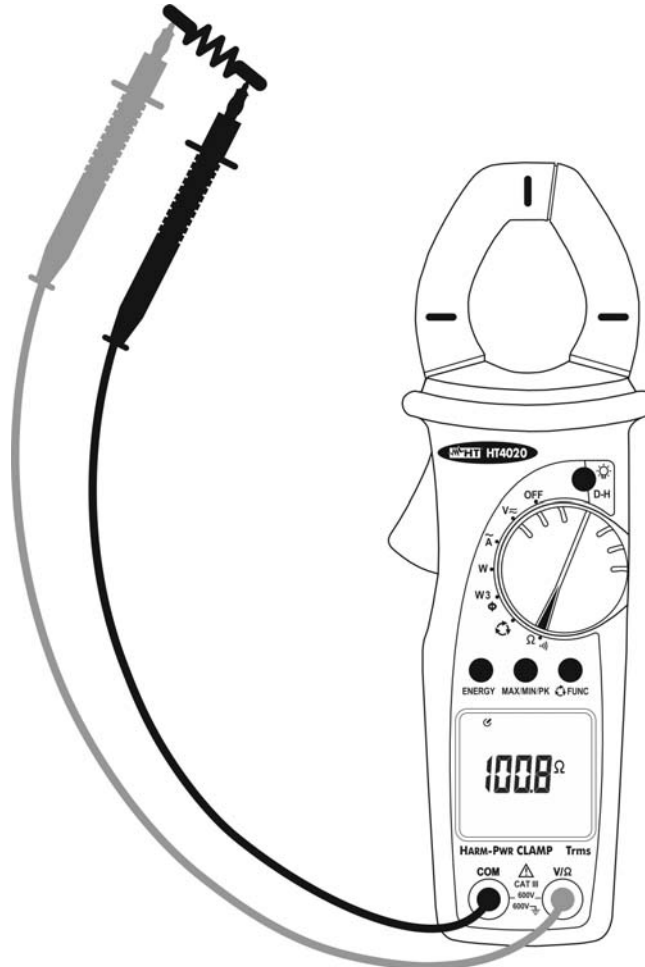

Fig. 7: Use of instrument for resistance and continuity test
3. Connect the test leads to the circuit under test (see Fig. 7). The measured resistance value is displayed.